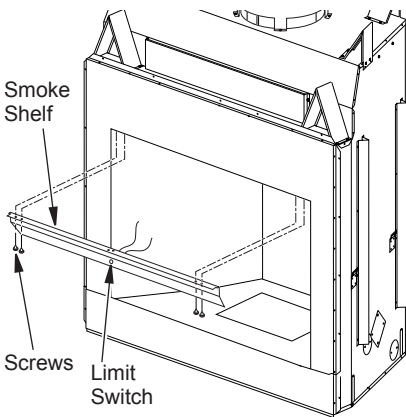

Figure 26 - Removing Smoke Shelf
1. Remove screws that attach smoke shelf to firebox top (see Figure 26).